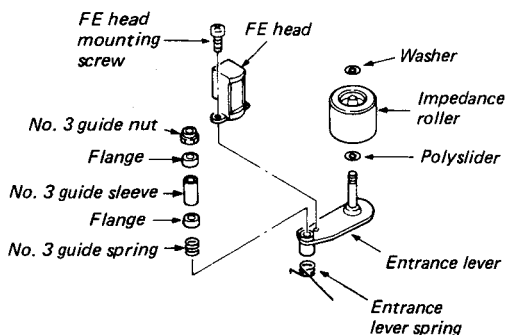

Fig. 1-3-21 Replacement of No. 3 guide and FE head
1. Rotate the No. 3 guide nut counterclockwise and remove the No. 3 guide nut and flange as shown in Fig. 1-3-21. When replacing a new flange, perform the previous steps in reverse order.
The flange arranged in upper and lower positions are common parts and can be used either place and upside down. (Fig. 1-3-21)
2. Remove the FE head mounting screw and the FE head can be removed. (Fig. 1-3-21)
5. The replacement of the FE head causes little change in linearity. But confirm whether the associated adjustments have not been upset, starting check from the linearity adjustment, item 4) of the tape transport adjustment. (Refer to 1-4-4 (3).)
1. Remove the washer and replace the impedance roller as shown in Fig. 1-3-21.